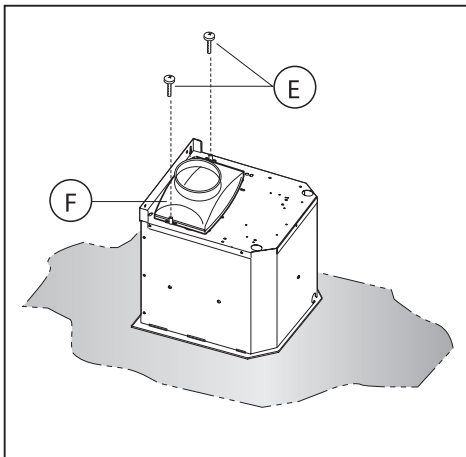

Fig.7
-If your product is fitted with a connector flange, perform the assembly steps indicated in fig. 7 before fixing the cooker hood to the structure. Take connector flange **F** and fit it to the upper part of the cooker hood suction assembly using the 2 screws **E** (Fig.7).